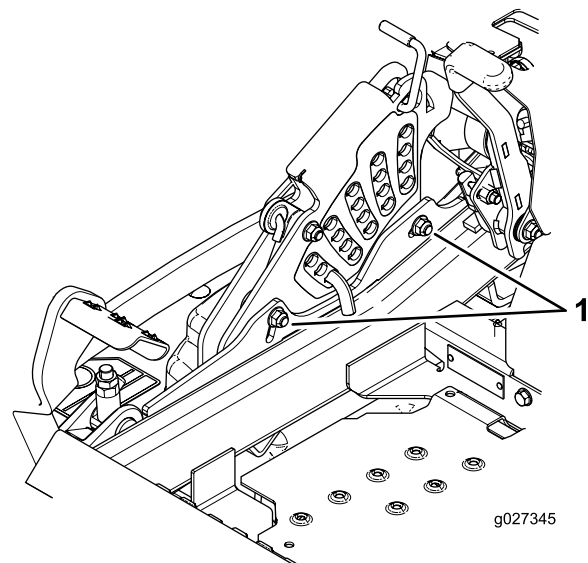

Figure 88
12. To adjust the single point system, loosen the two bolts at the bottom of the height-of-cut plate. Refer to Figure 88.
14. Tighten the 2 bolts at the bottom of the height-of-cut plate (Figure 88). Torque them to 37 to 45 N·m (27 to 33 ft·lb).